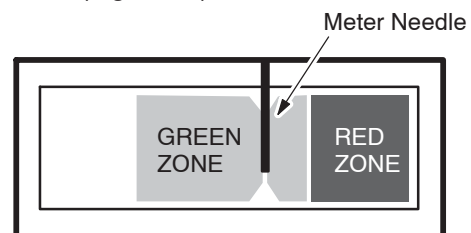

FIG. 15
5. Adjust pad pressure meter within Green Zone. Press the pad pressure switch to decrease or increase pressure. For best results adjust needle as shown (Figure 15).